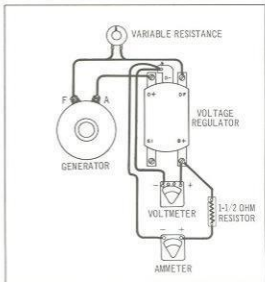

Figure 51-8.
1. Make same connections as used to make previous Test B, except move positive voltmeter lead to regulator "B+" terminal. See Fig. 51-8.